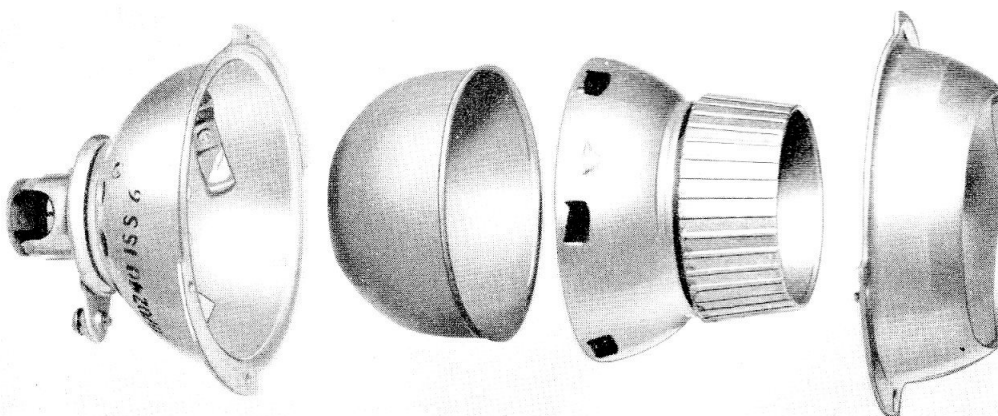

Fig. 2. Exploded view of reading lamp
3. The reading lamp, shown in an exploded view in fig. 2, consists of two assemblies, the inner body and the outer shells. The inner body has two hemispherical sections, the front section which carries the lens, and the rear section which seats into the front section on three dimples. The two sections of the